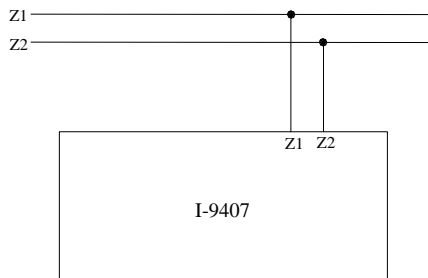

Fig. 5
- ✧ The wiring of the sounder strobe and direct control through volt-free normally open contact of the manual call point are shown in Fig. 5.